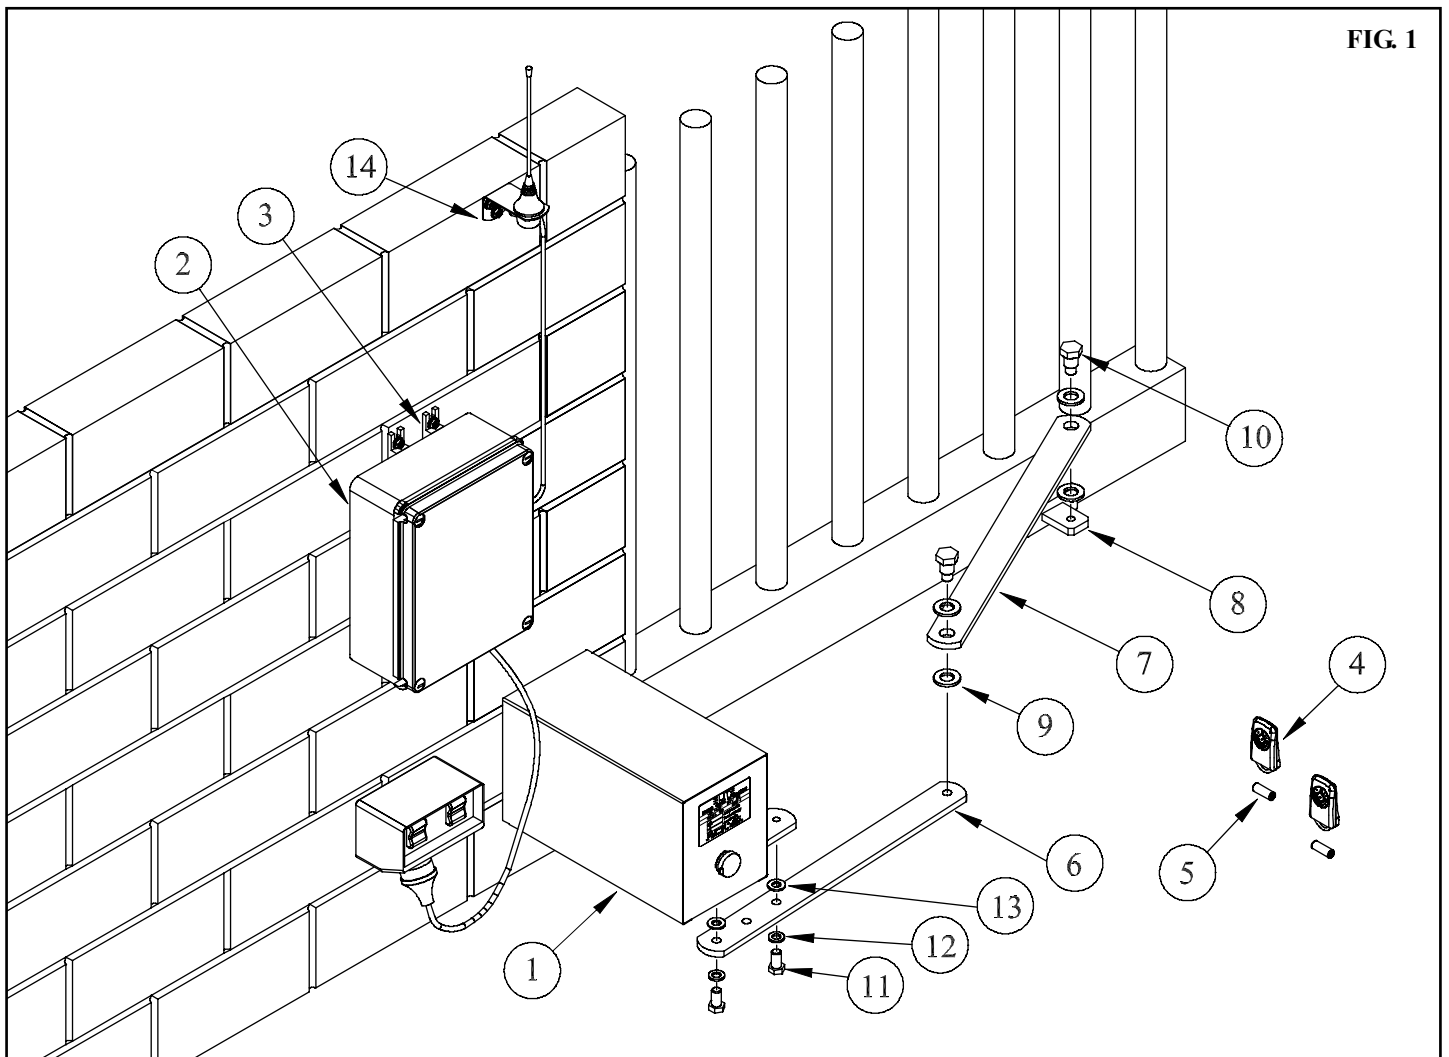

FIG. 1
2. Attach drive arm extension to drive arm (fixed to the drive unit) (Fig. 1), using two (2) Hex. Head screws and spring and flat washers supplied.